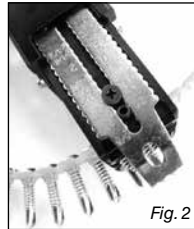

Fig. 2
4. Adjust the nose piece so there is a 1/8" to 1/4" gap between the nosepiece and the tip of the screw. (See Fig. 2)